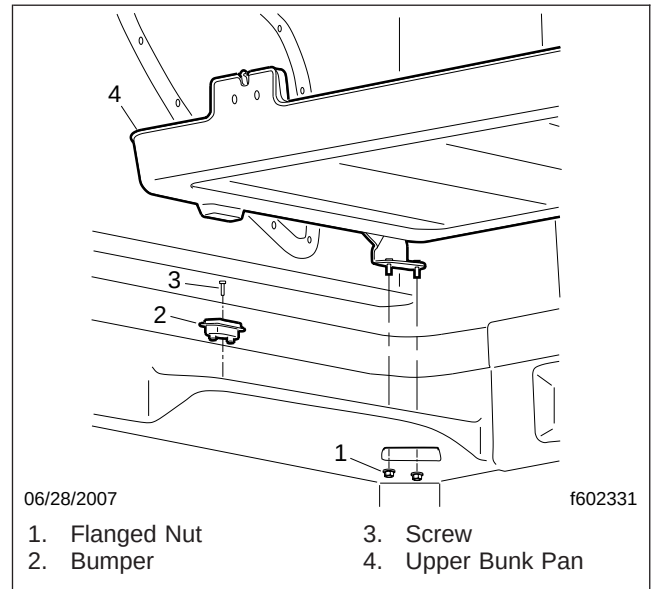

Fig. 2, Upper Bunk Installation
6. Through the light-fixture opening, remove the nuts and washers that attach the bunk to the bracket at each end of the bunk; see Fig. 2.
2. Through the light-fixture opening, install the washer and nut on the stud, one at each end of the bunk; see Fig. 2.